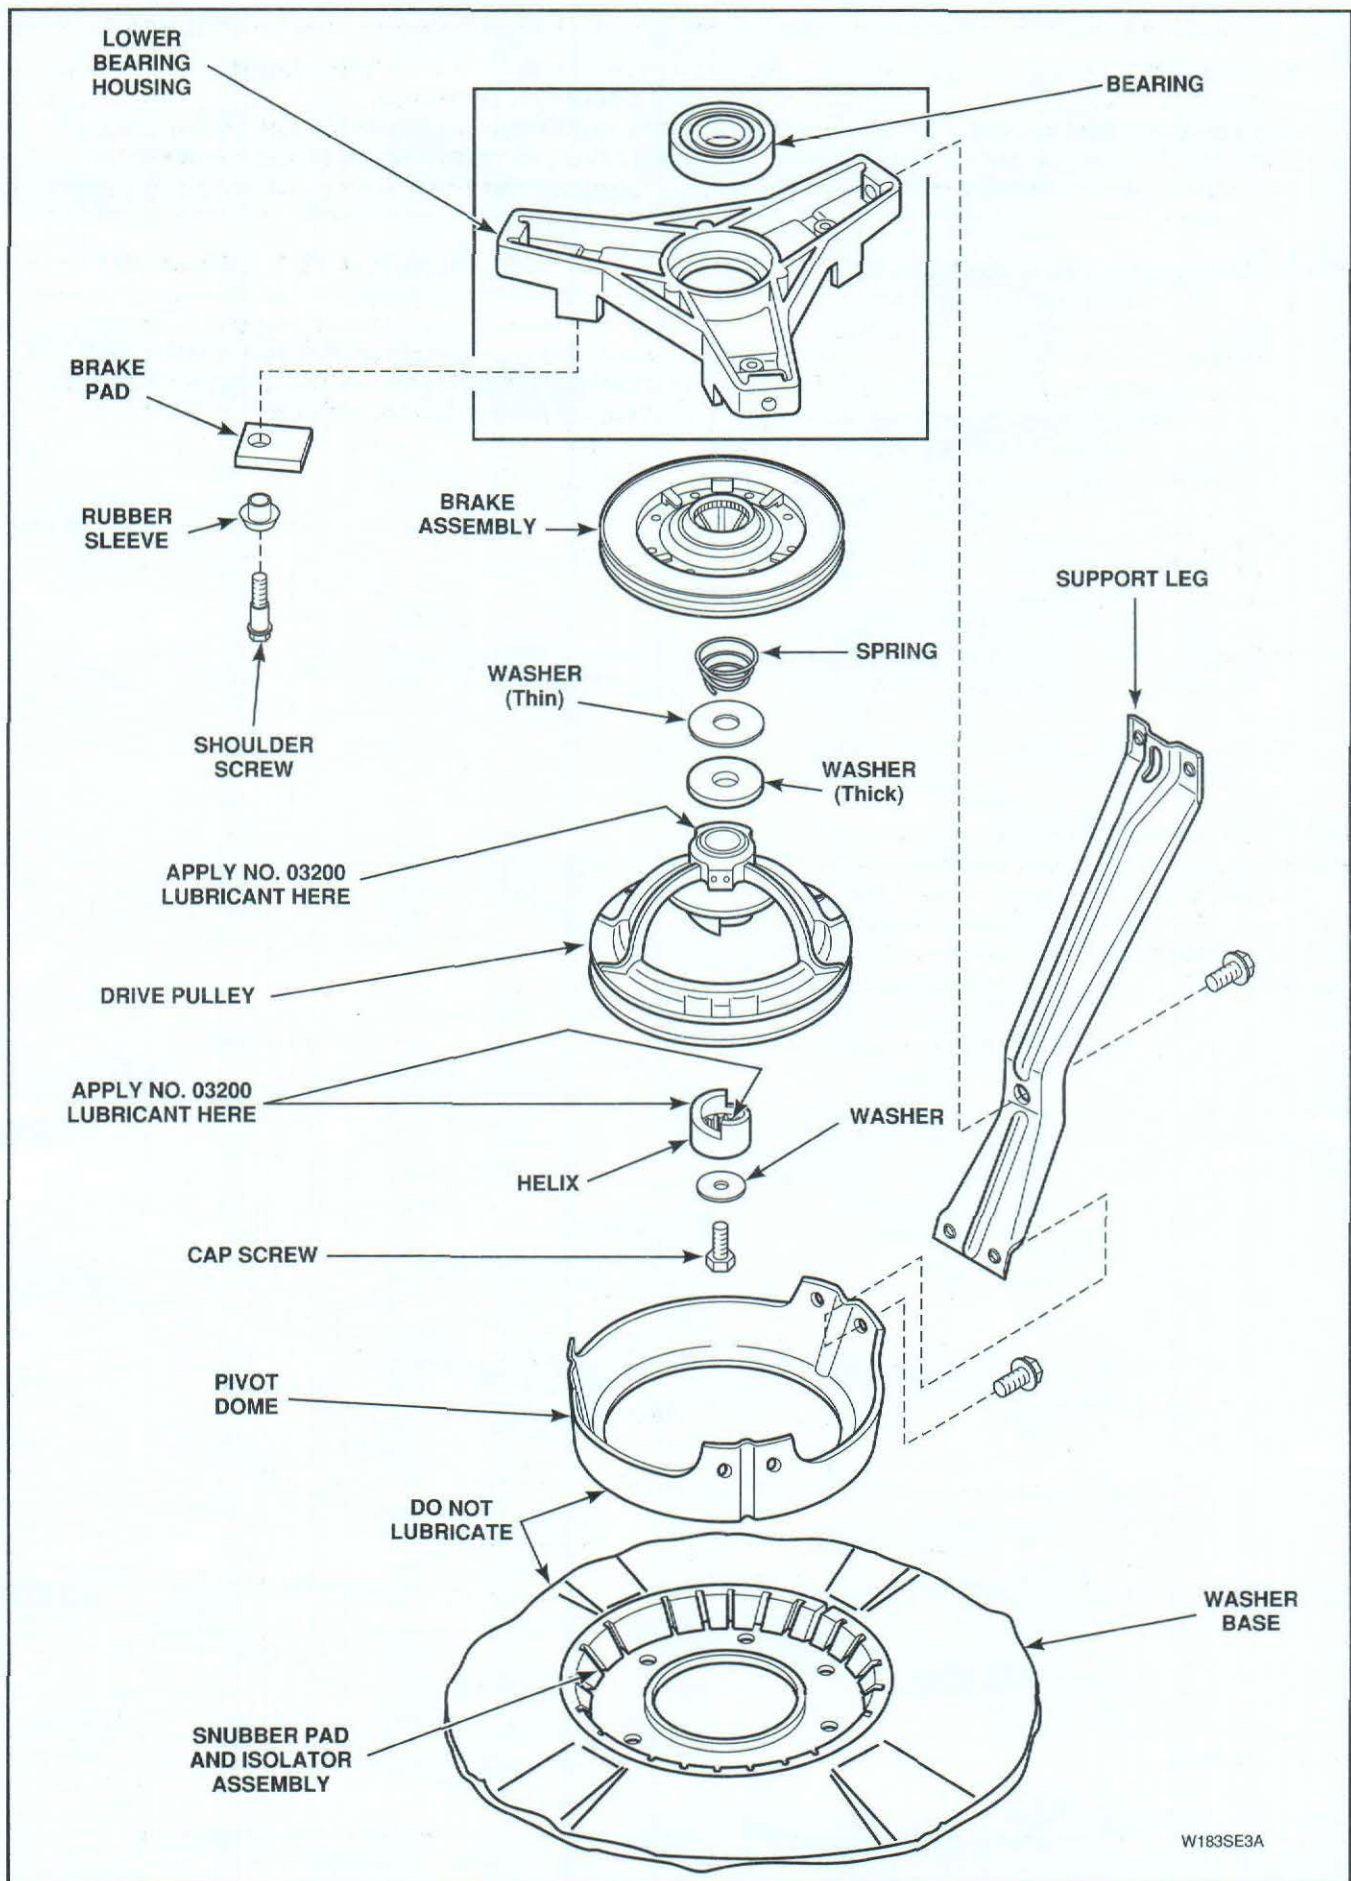

Figure 51
NOTE: When reinstalling pulley, place a small amount of No. 03200 Lubricant on top side of the drive pulley that will be contacting large flat washers. Lubricate helix ramps and bore with a small amount of No. 03200 Lubricant. See *Figure 51*.
NOTE: When reinstalling pulley, place a small amount of No. 03200 Lubricant on top side of drive pulley that will be contacting large flat washer. Lubricate helix ramps and bore with a small amount of No. 03200 Lubricant. See *Figure 51*.
IMPORTANT: Two large flat washers must be in place between spring and drive pulley when reassembling. Thicker washer must contact top side of drive pulley. See *Figure 51* for assembly sequence.
NOTE: When reassembling, place a small amount of No. 03200 Lubricant to top side of drive pulley that will be contacting the large flat washer. Lubricate helix ramps and bore with a small amount of No. 03200 Lubricant. See *Figure 51*.
- o. Using a right angle needle nose pliers, remove spring from around lower transmission tube (located inside brake assembly), *Figure 51*.
- p. Remove three screws holding brake pads, rubber sleeves and brake assembly to lower bearing housing, *Figure 51*, then remove brake assembly and pads off bottom of transmission assembly.
NOTE: Refer to *Figure 51* for assembly sequence.
NOTE: When reinstalling pulley, place a small amount of No. 03200 Lubricant on top side of the drive pulley that will be contacting large flat washer. Lubricate helix ramps and bore with a small amount of No. 03200 Lubricant. See *Figure 51*.
- Remove two large flat washers from transmission shaft, *Figure 51*.
IMPORTANT: Two large flat washers must be in place between spring and drive pulley when reassembling. Thicker washer must contact top side of the drive pulley. See *Figure 51* for assembly sequence.
NOTE: When reassembling, place a small amount of No. 03200 Lubricant to top side of drive pulley that will be contacting large flat washer. Lubricate helix ramps and bore with a small amount of No. 03200 Lubricant. See *Figure 51*.
- q. Remove three screws and rubber sleeves holding brake pads to lower bearing housing, *Figure 51*.